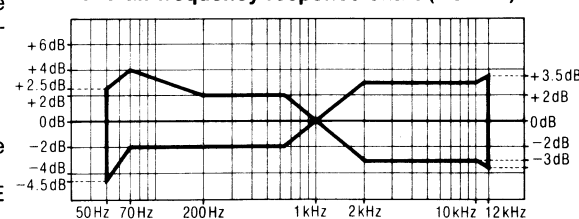
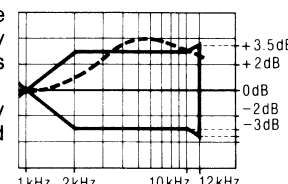
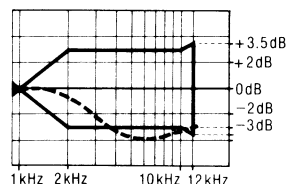

Fig. 12
Fig. 14
Fig. 15
- Playback the signals recorded in step 6, and check if the frequency response curve is within the limits shown in the overall frequency response chart for normal tapes (fig. 12). (If the curve is within the charted specifications, proceed to steps 7, 8 and 9.)
When the curve exceeds the overall specified frequency response chart (fig. 12) as shown in fig. 14.
- Repeat steps 5 and 6 for confirmation (Proceed to steps 7, 8 and 9 if the curve is now within the charted specifications as shown fig. 12.)
- If the curve still exceeds the specifications (fig. 12), increase bias current further and repeat steps 5 and 6.
When the curve falls below the overall specified frequency response chart (fig. 12) as shown in fig. 15.
- If the curve still falls below the charted specifications (fig. 12), reduce bias current further and repeat steps 5 and 6.